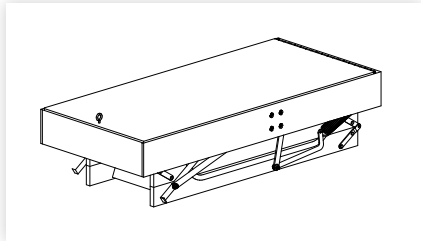

figure 6
2. Turn the ladder over so the lid is facing up. Fit the screw eye 25mm in from the opening end, midway across the width (figure 6).